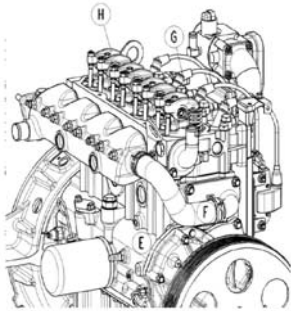

Figure 1. Check the top dead center (1)
- Rotate the crank shaft pulley clockwise in order to position a far left groove from the crank pulley grooves (F) inside a timing gear (E) of a front case. (Figure 1)
- When there is a gap between an air intake & the exhaust rocker arm (G) of #1 cylinder and a valve cap, cylinder #1 is the compression top dead center. When there is a gap between the air intake & exhaust rocker arm (H) of cylinder #4 and the valve cap, cylinder #4 is the compression top dead center. Therefore, make sure to have the cylinder #1 be the compression top dead center by rotating the crank pulley 1 full revolution.